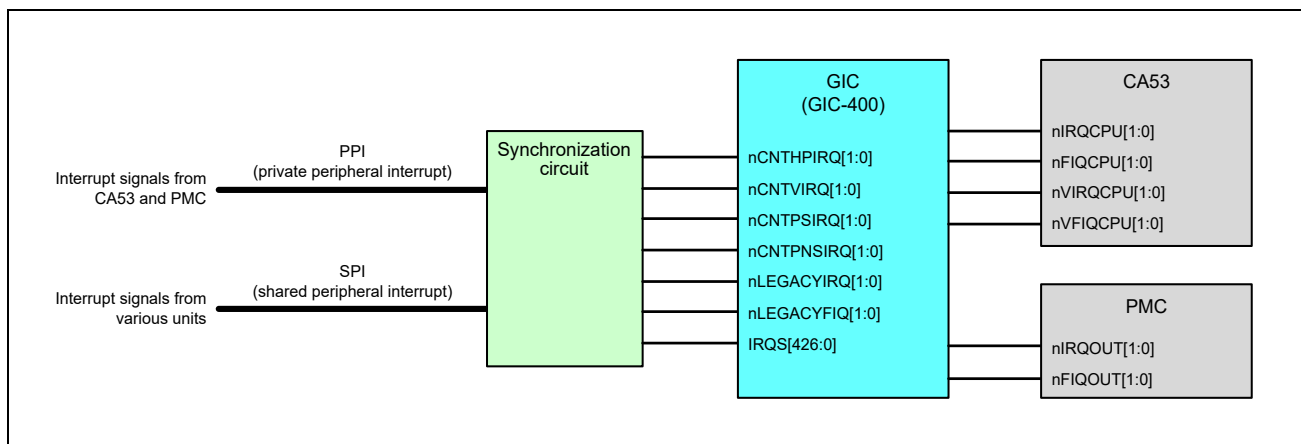

Figure 5.1-1 Interrupt System Diagram
**Figure 5.1-1** shows the interrupt system diagram of this LSI.